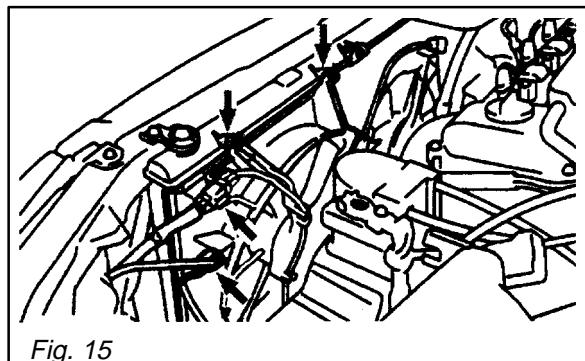

Fig. 15
- C. Reconnect the cooling fan connector and the No. 1 engine temperature switch wire connector as shown in figure 15.